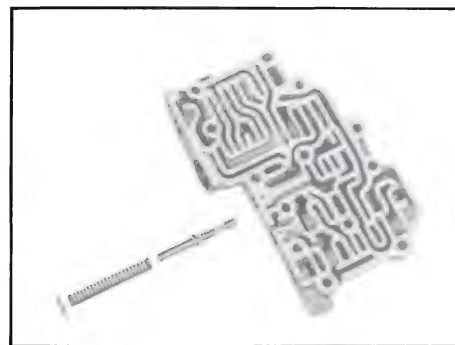

Figure 5-173
2. Install modulator limit valve, and spring into bore of valve body. With aid of tool J-21361 compress spring and install retaining pin. See Figure 5-173.